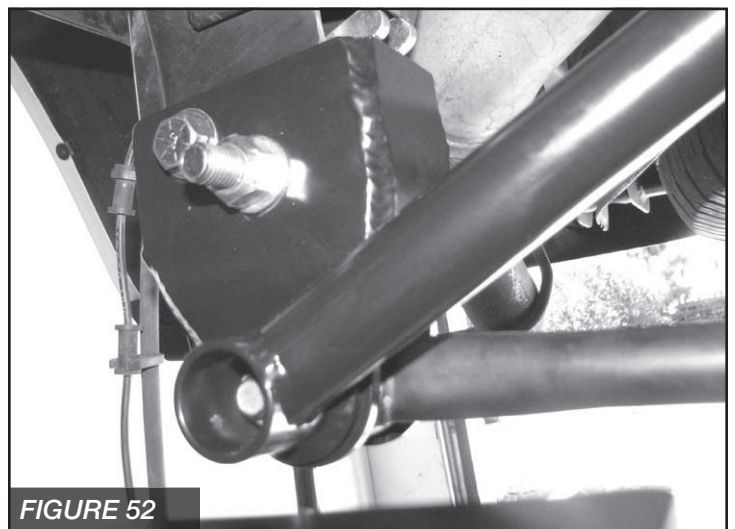

FIGURE 52
68. Use the open $\frac{1}{2}$ " holes in the Fabtech bracket as guide to drill out the two holes for the locking bolts in the factory bracket. Insert the two $\frac{1}{2}$ " x 1" bolts into the new holes with nuts tabs FT5036. Torque to 90 ft.-lbs. Torque the 14mm bolt in the stock pivot hole to a 160 ft.-lbs. Torque the frame side of the trac bar support tube to 317 ft.-lbs. **SEE FIGURE 52**